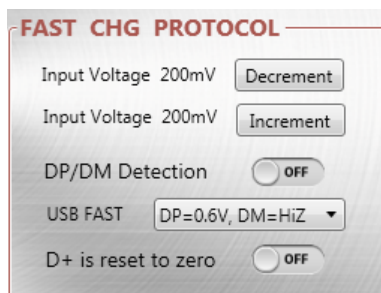

Figure 28: Fast Charge Protocol Setting
- Fast charge protocol control (see Figure 28)